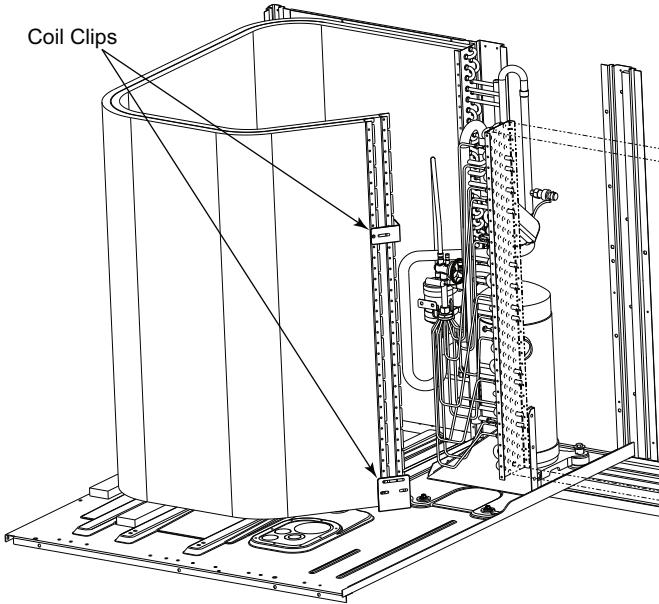

Fig. 20 — Condenser Coil Clips
5. Remove the screws from both sides of the upper and lower coil retaining clips on the hairpin end of the coil tube sheets (see Fig. 20).